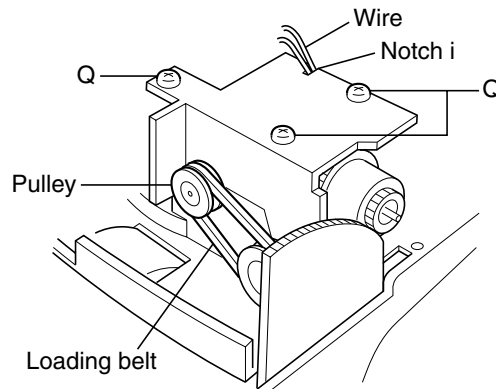

Fig.23
■ Replacing the loading belt and CD door motor (See Fig.23 and 24)